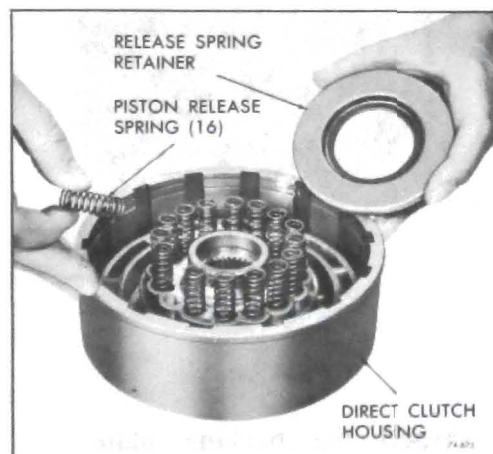

Figure 76-675
6. Remove retainer and sixteen (16) piston release springs. See Figure 76-675.